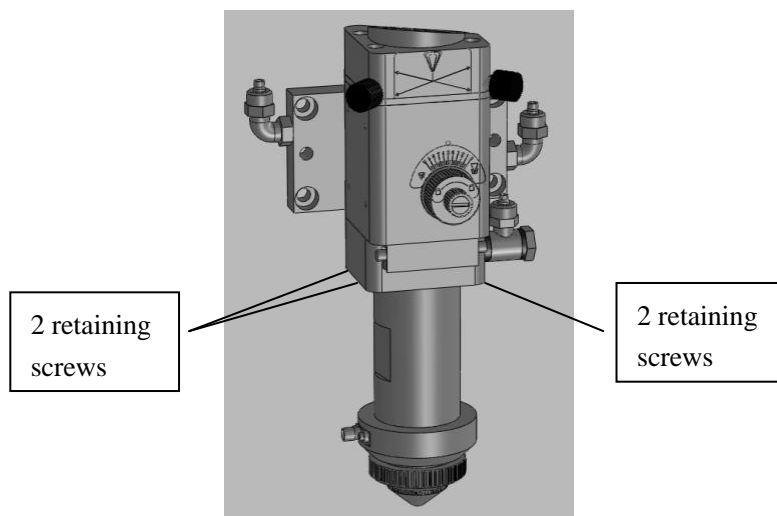

Fig.11-1
1. Wear anti-dust gloves or finger cots, take out the protective lens according to the methods in Fig.11-1 for safekeeping.